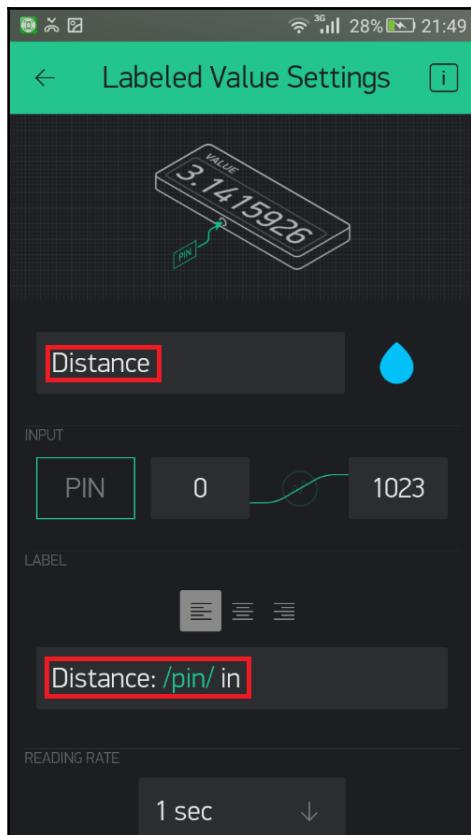

Figure 3.9: The Labeled value settings
6. Under **LABEL**, replace the default text, **LABEL** with **Distance: /pin/ in**. The **/pin/** reserves a placeholder for the calculated distance values. Also, **in** indicates the distance in inches. As an instance, the value 50 can be displayed as **Distance: 50 in** (*Figure 3.9*). Keep **READING RATE** as **1 sec**: